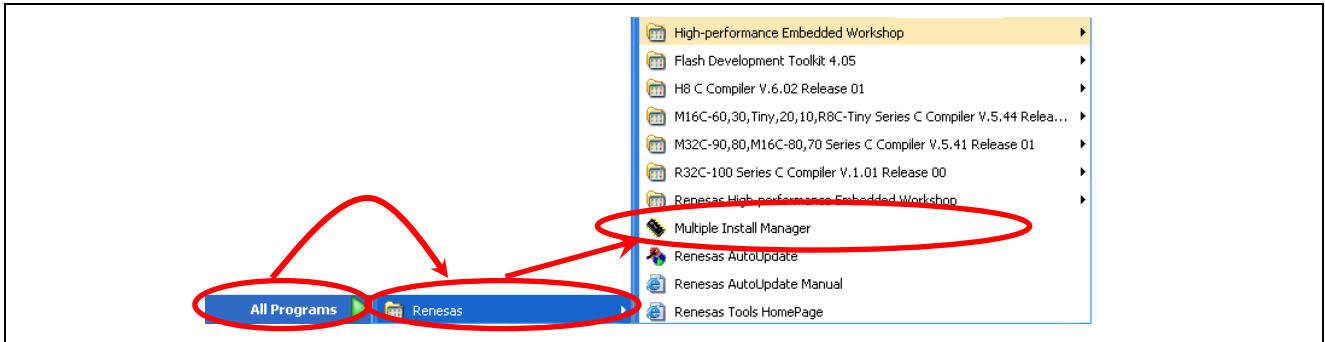

Figure 3.15 Starting up the Multiple Install Manager
- (1) Select [Multiple Install Manager] from the start menu as shown in Figure 3.15.